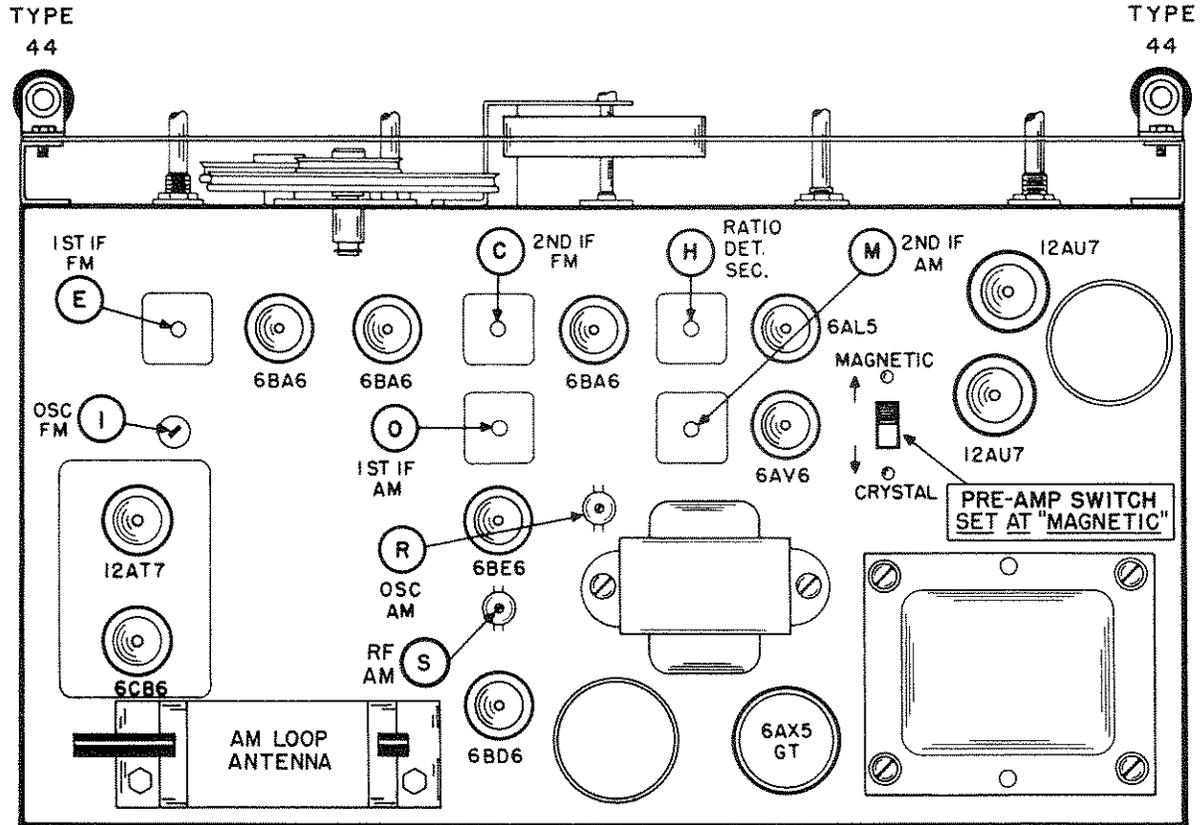

Fig. 4. Top View of Tuner Showing Location of Alignment Adjustments and Tubes
DIAL LAMP REPLACEMENT - Refer to Fig. 4 for the location of the two dial lamps used in the tuner. To gain access to the lamps, it will be necessary to first remove the tuner from the cabinet as outlined above. Then remove the front panel by removing the front control knobs and the two screws on either side of the front panel. Make replacement with a type 44 (blue bead) pilot lamp.
- Refer to Figs. 4 and 5 for location of all alignment adjustments. Adjustments are also shown on schematic diagram.